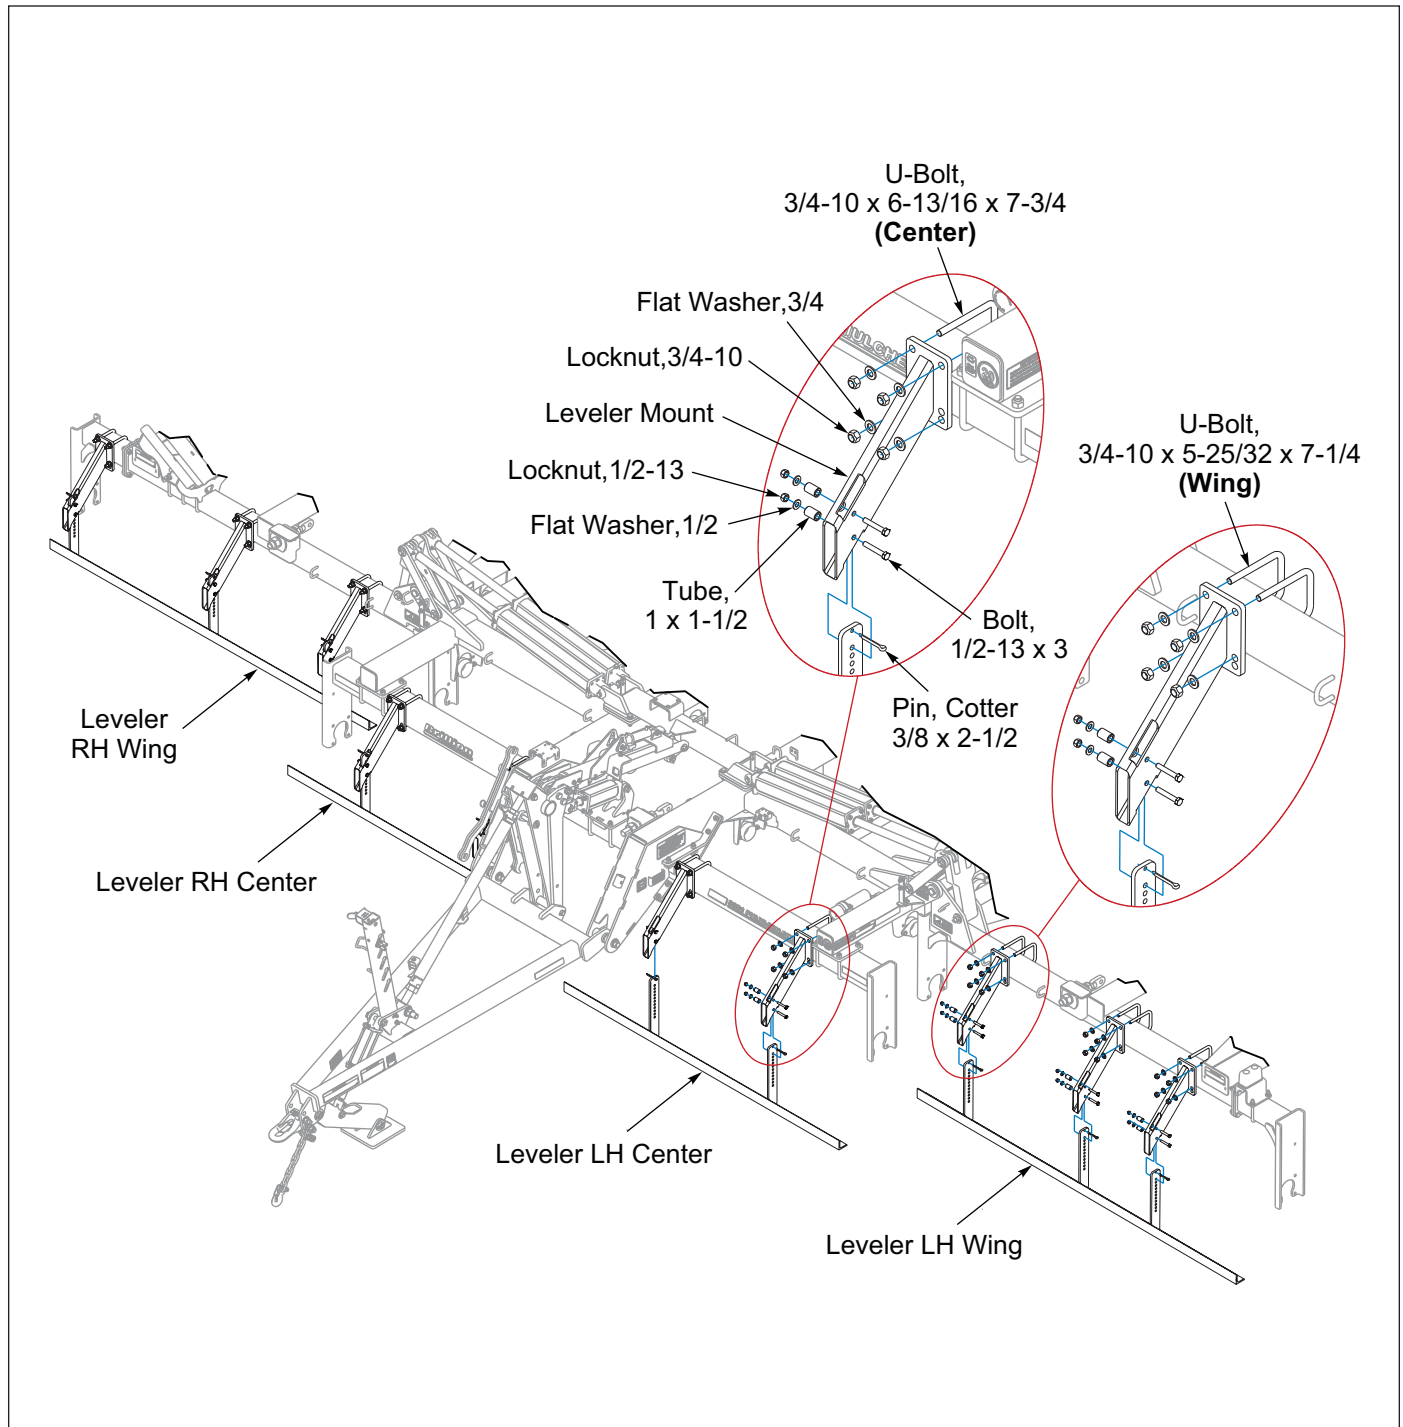

Figure 2-95: Land Leveler Installation - Optional
1. Attach the Leveler Mounts to the Center Frame Front Roller Frame Tube using 3/4-10 x 6-13/16 x 7-3/4 U-Bolts and to the Front Wing Frame Tube using 3/4 x 5-25/32 x 7-1/4 U-Bolts. Secure with Flat Washers and Locknuts. **See Figures 2-95, 2-97 and 2-97.**